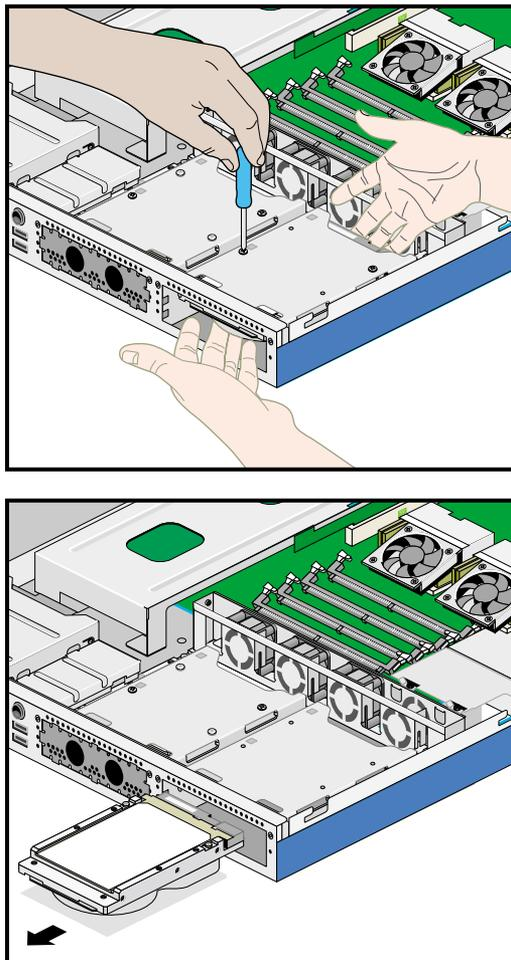

Figure 2-38 Removing the Hard Disk Drive
5. While another person holds the hard drive in place, remove the remaining two screws, as shown in Figure 2-38.